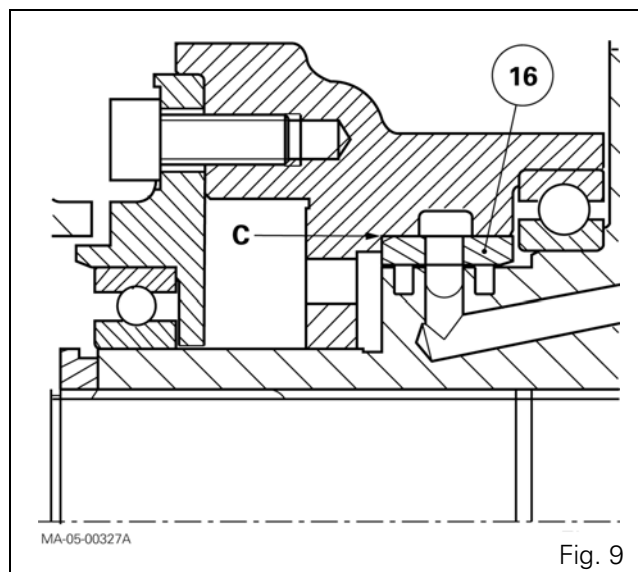
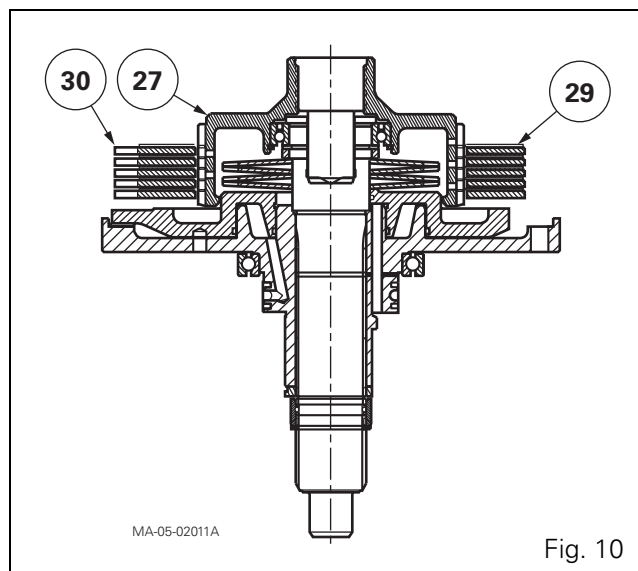

Fig. 9
Fig. 10
49. If required, fit the 1.5 bar valve (73). Tighten to a torque of 47 - 54 Nm.
Insert ring (16) using a suitable fixture, with the chamfer "C" turned as shown in Fig. 9.
50. Lubricate the ring. Assemble fixed unit (1) on the unit (18).
51. Lubricate pump (14) with transmission oil and position it aligning the flat sections of the rotor with those on the unit (18).
52. Manually check the angular movement of the rotor on the flat sections of unit (18).
53. Fit the bearing (12) on the cover plate (2) of the pump. Fit the cover plate. Fit the circlip (11) and screws (13) and tighten to a torque of 25 - 35 Nm.
54. Lubricate and fit a new assembly ("O" ring (7) and anti-extrusion rings (8)). Slide on the splined ring (6). Fit a new front snap ring (9).
55. Soak the discs (29) in a transmission oil bath for approximately 1 hour. Check that they are correctly impregnated.
56. Position the intermediate plates (30), by aligning their lugs and the discs (29) on the hub (27) (see note and Fig. 10).